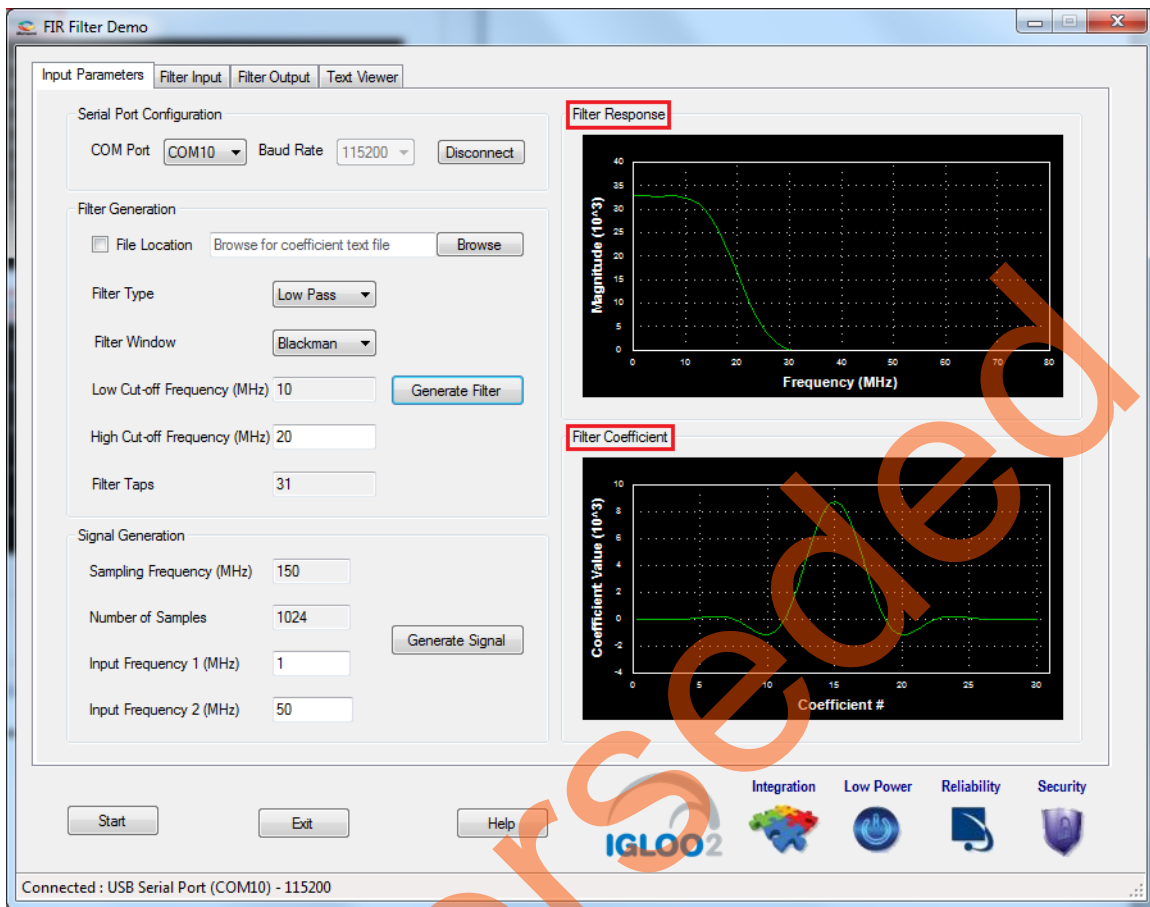

Figure 13 • Filter Response and Filter Coefficient Plot
4. The successful after-generation graphs of the filter coefficients, filter response, and the filter coefficient plots, are displayed. Refer to Figure 13.